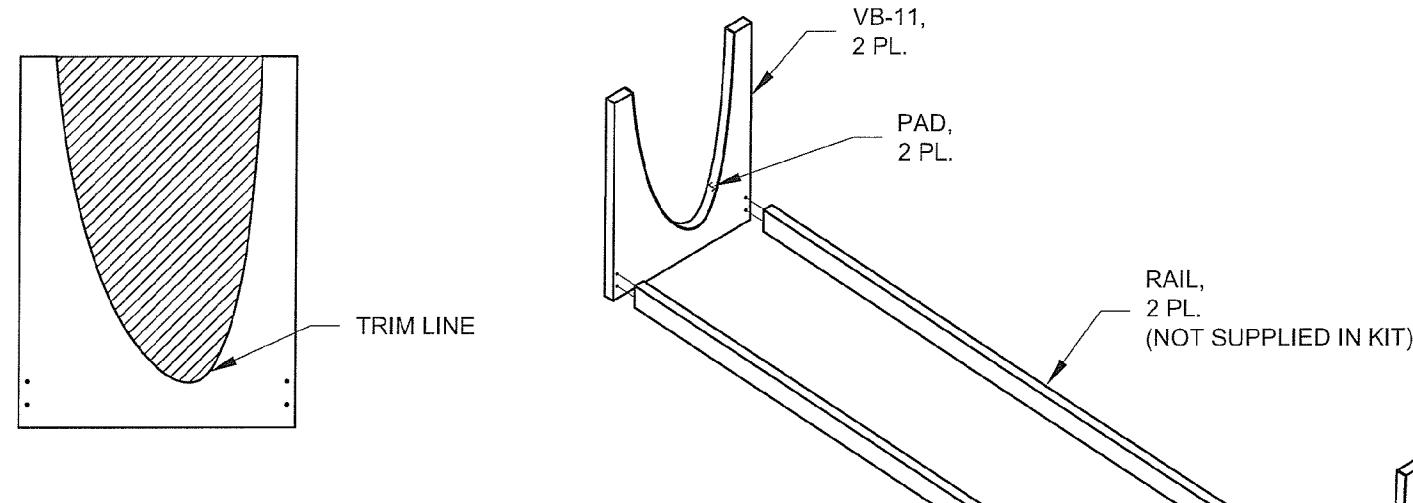
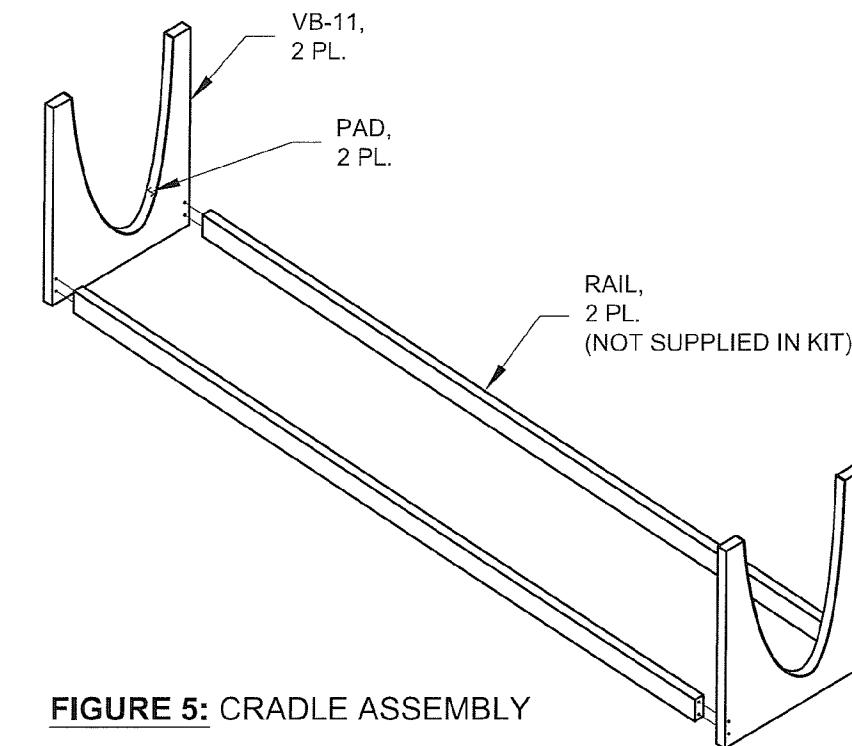

FIGURE 4: WING LEADING EDGE VEE BLOCK
FIGURE 5: CRADLE ASSEMBLY
Step 4: Create a cradle to hold both the leading edge and tank assemblies during assembly. First remove the material indicated by the hatched area in Figure 4 from the VB-11 Wing Leading Edge Vee Blocks. **Save** the removed material, it will be used later to create the flap cradle. Make rails 57 1/2 inches long to interconnect the vee blocks. Assemble the cradle as shown in Figure 5. Line the inside face of the cradle with duct tape or weather strip as shown in Figure 5.